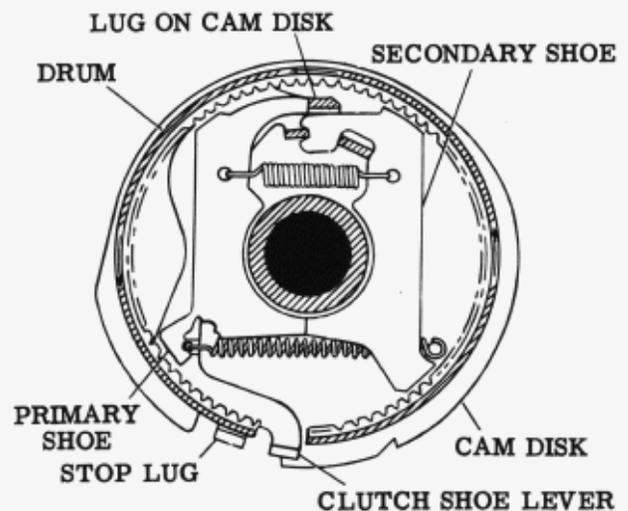

Figure 1 - Clutch Mechanism (Shown Disengaged)
1.04 In its disengaged position the clutch is latched between the clutch trip lever, which bears against the shoe lever and the clutch latch lever, which is seated in the notch in the clutch disk (see Figure 1). In this position, the clutch shoes are not in contact with the clutch drum and the shaft may be rotated freely. When the shaft is turned by hand, the clutch does not fully disengage upon reaching its stop position. If a requirement calls for disengagement, rotate the clutch to its stop position, apply pressure with a screwdriver to the disk lug (Figure 1) and turn the disk in the normal direction of shaft rotation until the latch lever falls into its notch. When the clutch is engaged, the shoe lever is unlatched and the shoes are wedged against the drum. This forces the clutch to turn with the shaft.